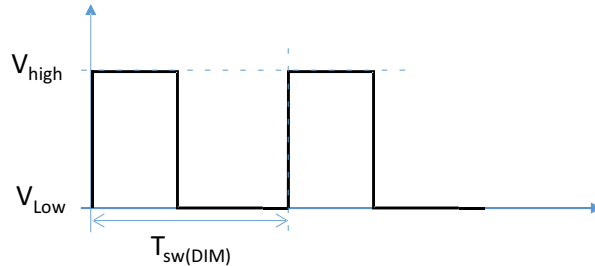

Figure 5. Dimming Signal
2. Set the waveform generator as follows: square signal waveform with $V_{\text{high}} = 10 \text{ V}$, $V_{\text{low}} = 0 \text{ V}$, 4 ms period ($T_{\text{sw(DIM)}}$), inverted polarity (see Figure 5). Set duty-ratio as indicated in below table.